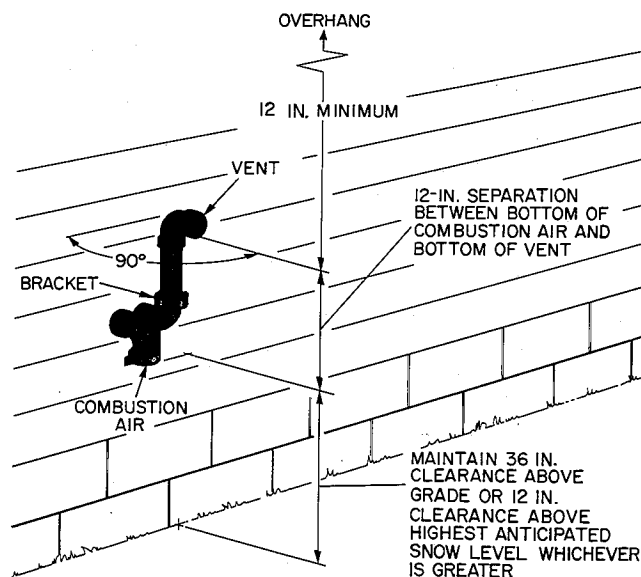
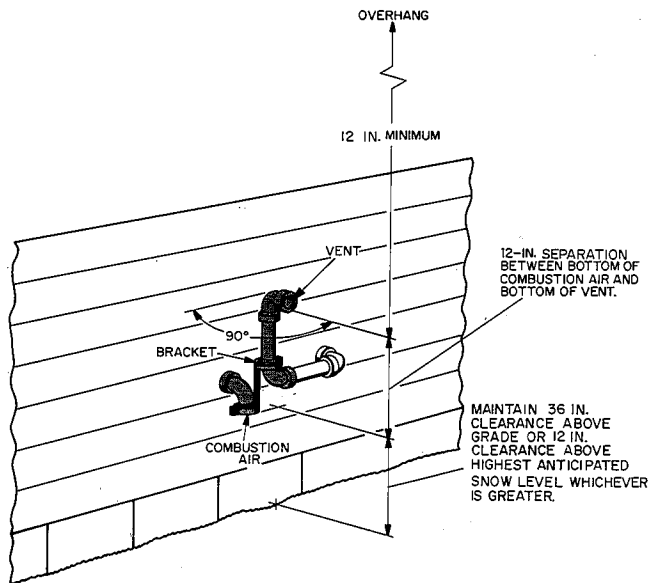

Fig. 2—Sidewall Vent Termination Above Snow Level or Grade (Preferred)
Fig. 3—Sidewall Vent Termination Above Snow Level or Grade (Option)
Install kit as follows when combustion-air and vent pipes exit through sidewall above snow level or grade. (Fig. 2 and 3)
NOTE: The arrangement in Fig. 2 is preferred. The arrangement in Fig. 3 is an option for the vent pipe only.
3. Install elbows as shown in Fig. 2 or 3. Clean them and apply cement using procedures described in Combustion-Air and Vent Piping.
4. Install bracket as shown in Fig. 2 or 3.
5. Position vent-pipe assembly, maintaining a 12-in. separation. Cement vent pipe in elbow as shown in Fig. 2 or 3.
6. For applications using vent-pipe option (indicated in Fig. 3), rotate vent elbow 90 degrees from position shown in Fig. 2.